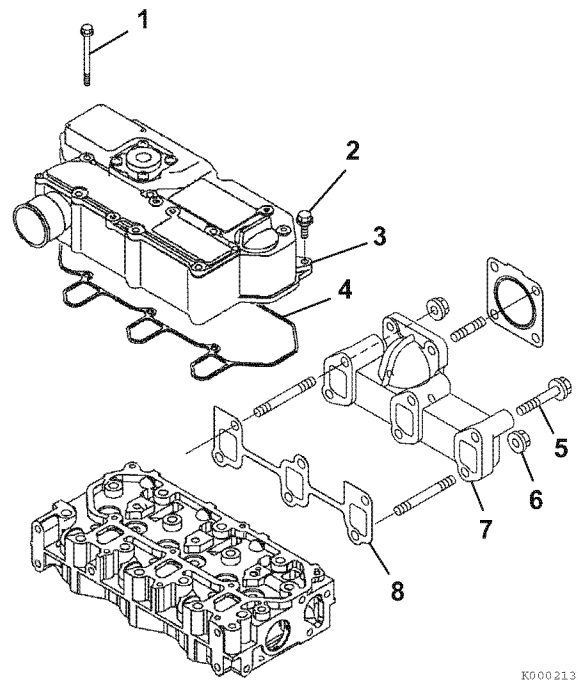

Figure 6-34
2. Lightly grease a new valve cover gasket (**Figure 6-34, (4)**). Place the gasket in the groove of the intake manifold/valve cover (**Figure 6-34, (3)**).
4. Reinstall and tighten bolts (**Figure 6-34, (1 and 2)**) securely.
5. Reinstall the exhaust manifold using a new gasket. Tighten the bolts and nuts (**Figure 6-34, (5 and 6)**) securely.